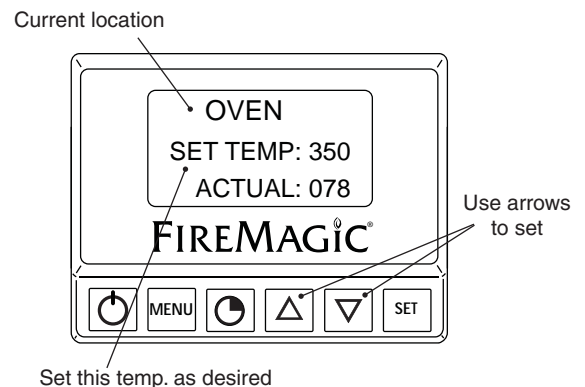

Fig. 21-4 Location temp. screen (oven shown)
2. The selected location's temperature screen will be displayed. Use the arrows to set the desired temp. The actual temp. will also be shown. (See Fig. 21-4)